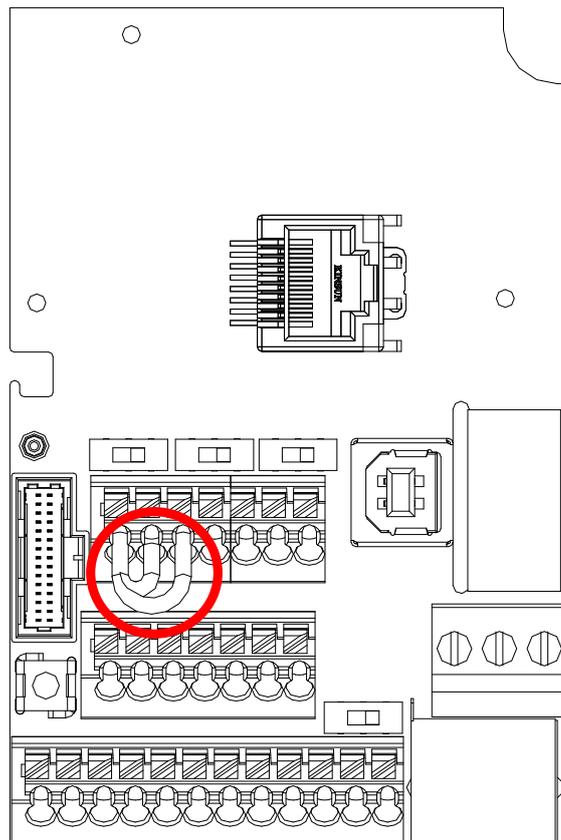

Figure 2
- 17-3-1 Internal circuit diagram of safe control loop is shown in Figure2.
- 17-3-2 Terminals of the safe control loop + 24V-S1-S2 are short-circuited together with jumper wire at the factory, as shown in Figure 2.